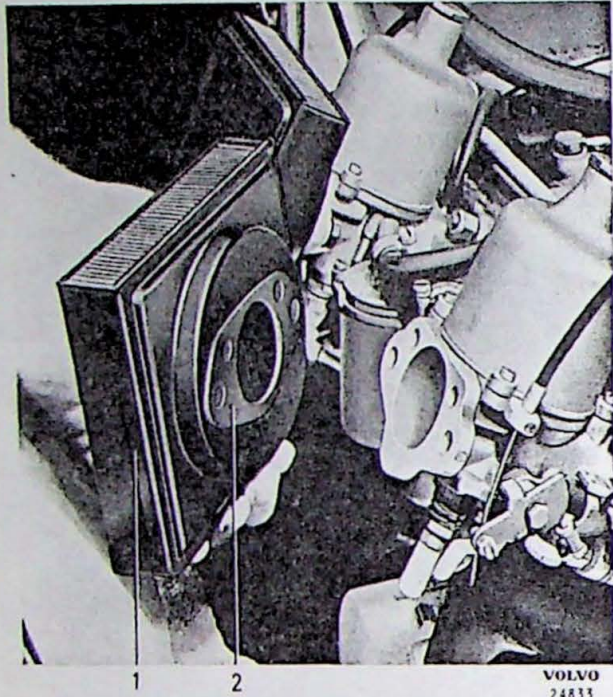

Fig. 1-80. Replacing the air cleaners
2. Make sure that the gaskets are turned the right way, see Fig. 1-80, and fit the new air cleaners. If the gasket is fitted wrongly, the ventilation holes for the suction chamber pistons are blocked and the carburetors cannot function properly. The car should not be driven without air cleaners fitted since the carburetors are dependent on the resistance to air flow through the carburetor cartridges.